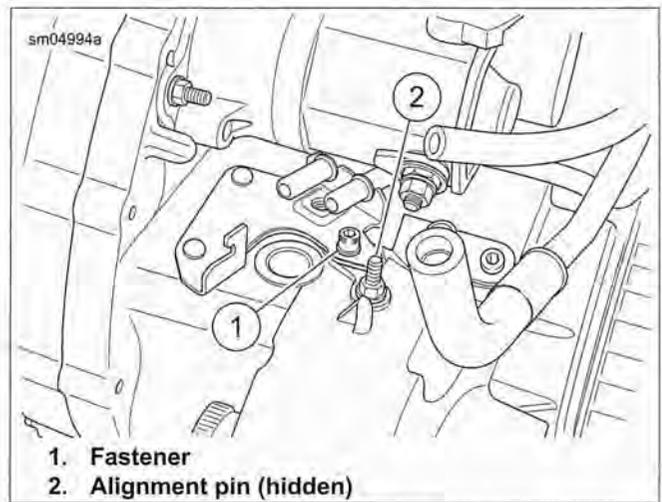
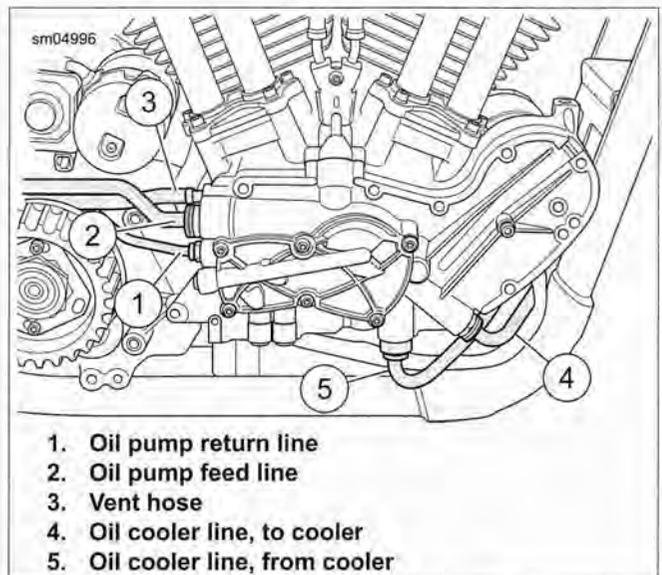
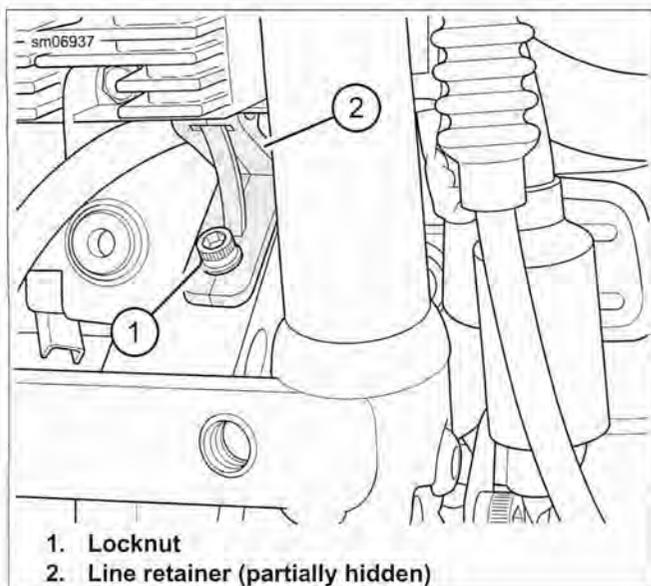

Figure 3-35. Rigid Oil Line Retainer
Figure 3-36. Oil Pump Lines
Figure 3-37. Oil Cooler Line Retainer
2. See Figure 3-35. Remove fastener (1) and raise retainer until alignment pin (2) is clear of bore in crankcase. Roll retainer out from beneath rigid oil lines to remove.
3. See Figure 3-36. Remove return oil line (1) from gearcase cover using OIL LINE REMOVER, 3/8 INCH (Part No. HD-49096).
5. Remove feed oil line (2) from gearcase cover using OIL LINE REMOVER, 1/2 INCH (Part No. HD-46503).
6. Disconnect vent hose (3) from fitting on oil pump.
7. See Figure 3-37. Remove locknut (1) and washer. Remove oil cooler line retainer (2) from lines.
8. See Figure 3-36. Release each oil cooler line (4, 5) from bottom of gearcase cover using OIL LINE REMOVER, 1/2 INCH (Part No. HD-46503).
3. See Figure 3-36. Connect oil cooler lines (4, 5) to lower gearcase cover. Verify each is securely held by the retainer clip.
4. See Figure 3-37. Install oil cooler line retainer (2) and tighten nut (1) securely.
5. See Figure 3-36. If removed, place return line (1) on engine and install electric starter. See 6.12 STARTER.
6. Connect vent (3), feed oil (2) and return oil (1) lines to oil pump body and cam support. Verify each is securely held by the retainer clip.
7. See Figure 3-35. Roll retainer under rigid lines at rear of crankcase and orient so alignment pin (2) is in bore in case. Verify flanges on lines are on the manifold side of the retainer. Secure with screw (1) and tighten to 90-120 **in-lbs** (10.2-13.6 Nm).